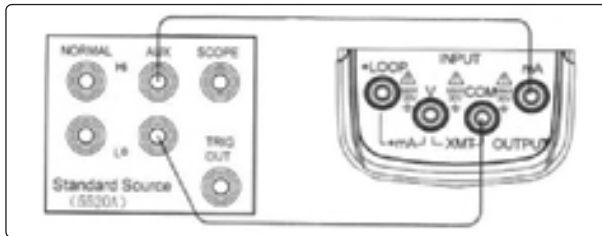

Figure 10-2
- 3) Connect to the Instrument as shown in Figure 10-2,